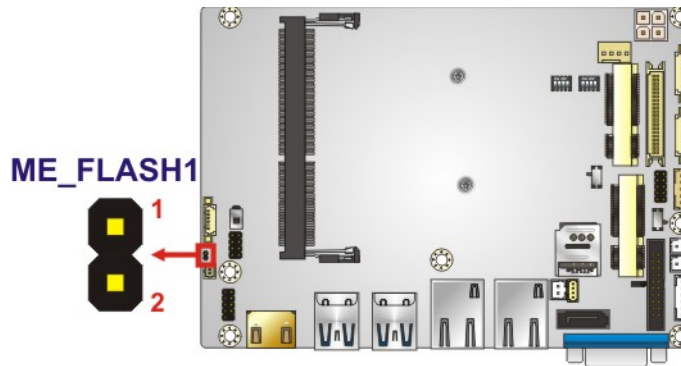

Figure 4-10: Flash Descriptor Security Override Jumper Location
- CN Location:** See **Figure 4-10**
The Flash Descriptor Security Override jumper (ME_FLASH1) allows to enable or disable the ME firmware update. Refer to **Figure 4-10** and **Table 4-2** for the jumper location and settings.